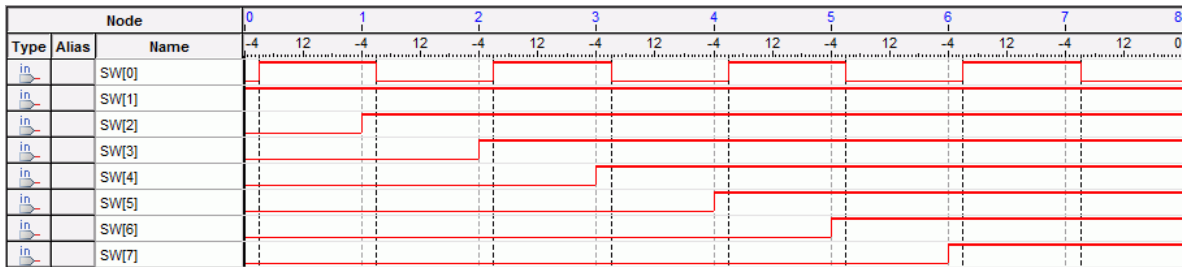

Figure 24. Possible waveforms that could result when using the Segmented Acquisition mode.
5. Go back to the SignalTap II window and click **Processing > Run Analysis**. Now, flip SW[0] up and down, and in between flips change the values of the other 7 switches. After you have done this 8 times, the values in the buffer will be displayed in the data window, and this will display the values that the 8 switches were at around each trigger. A possible waveform is presented in Figure 24. This resulted from the user flipping up one more switch between each flip of SW[0].